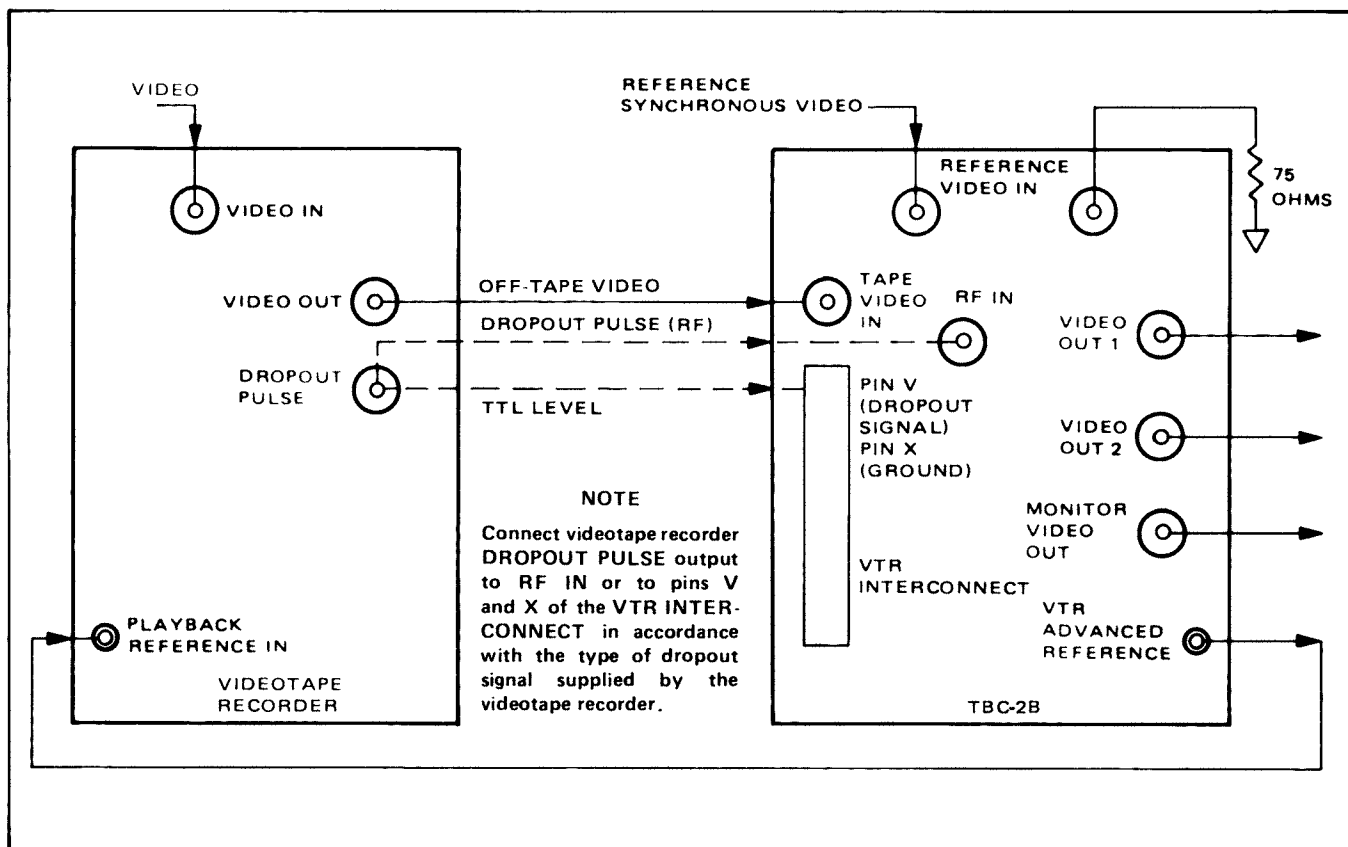

Figure 2-6. TBC-2B/Direct Recovery Full Bandwidth VTR Installation
2. Interconnect the TBC-2B in accordance with Figure 2-6.